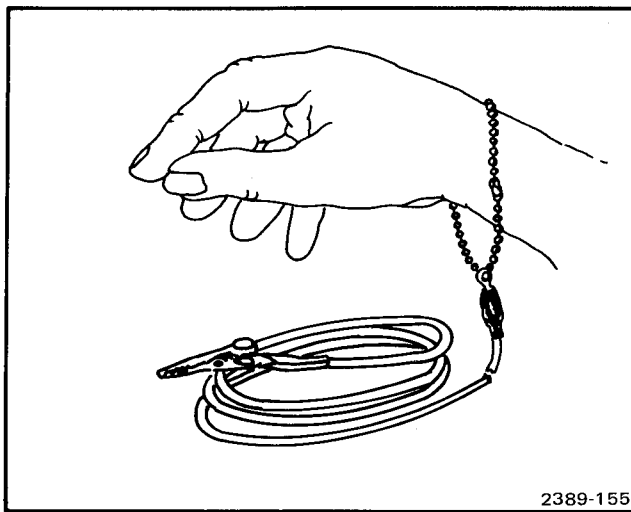

Figure 6-1. Wrist strap for use in handling static sensitive parts.
3. Discharge the static voltage from your body by wearing a wrist strap while handling these components (see Figure 6-1). Servicing static-sensitive assemblies or components should be performed only at a static-free work station by qualified personnel.